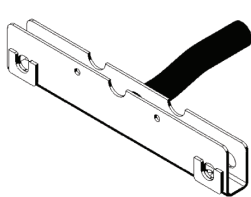
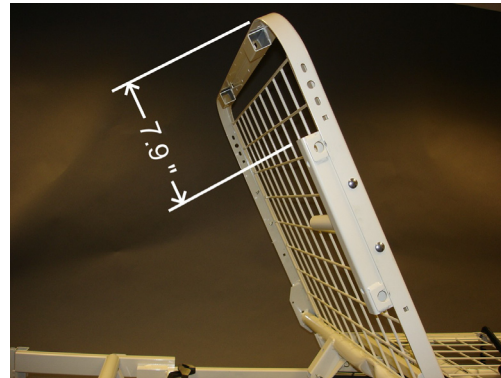

Figure 1
Figure 3
(PN:31008969) (Figure 1)
2. Position one assist mount assembly (Figure 1) under the head (or foot) section of the bed in the location (Figure 3).